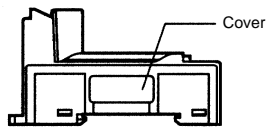

Figure 1
1. Remove the cover from the side of the SRT1-T□□D04S. (See Figure 1.)